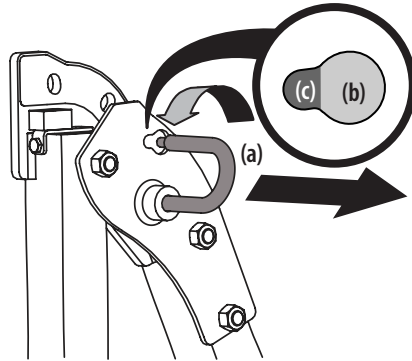

Figure 2-3
- Pull slightly up on the upper ROPS to relieve any tension on the locking pin (a) and rotate the locking pin (a) from the LOCKED (b) position into the ADJUSTMENT (c) position. See Figure 2-3. Repeat the procedure for the locking pin on the opposite side.